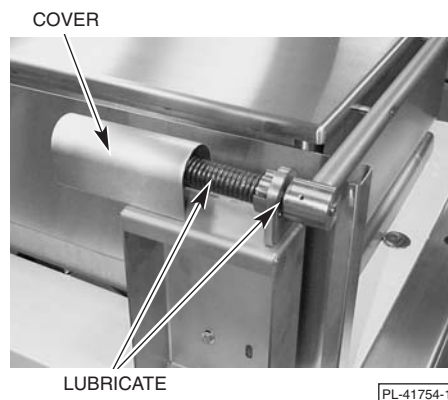

Fig. 7
2. Take the cover off by prying and lifting up (Fig. 7).